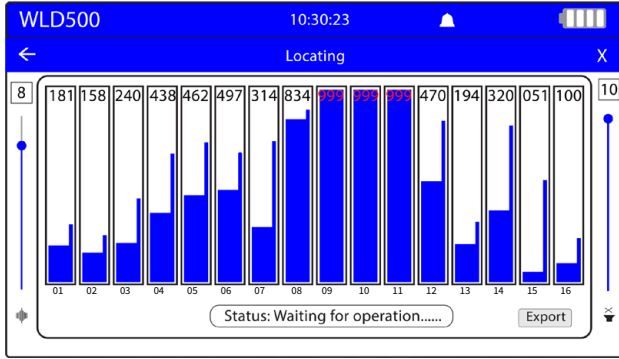

Fig. 3.3 _Locating Mode Identification Sample
2. It has 16 signal points, that can be activated individually by touching on the screen.*fig.3.3*